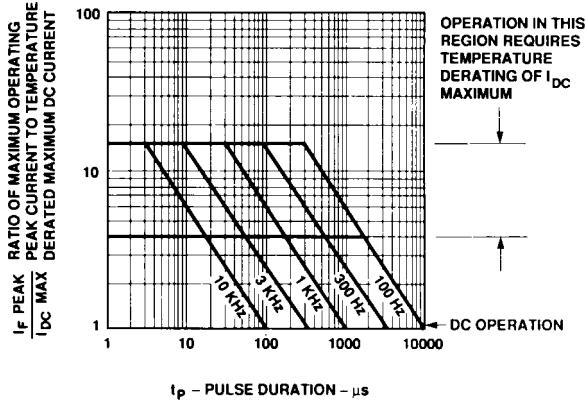

Figure 1. Maximum Allowed Peak Current vs. Pulse Duration - AlGaAs Red.
- See Figure 1 to establish pulsed conditions.